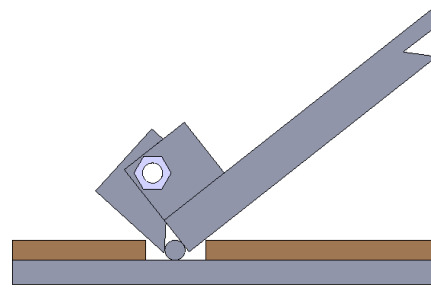

Fig.15
3. To lower lift: Press the button UP, until the safety lock is in the released position (**See Fig.15**), lower lift by pushing lowering handle.